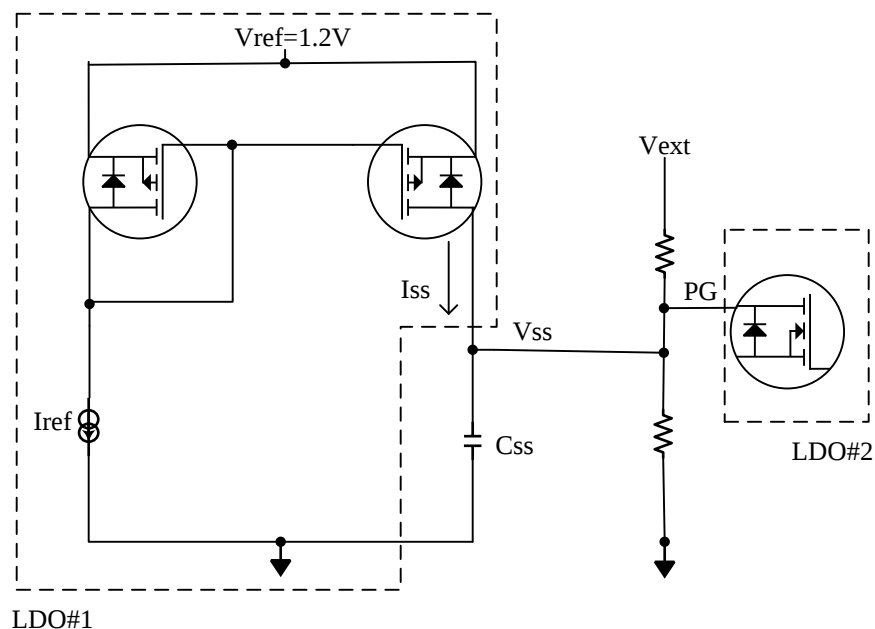

Figure 9. Sequencing LDO#1 by Power Good Signal of LDO#2
8.3.2 Power Good (PG)
Power Good terminal (9) is an open-drain connection and can be used to sequence multiple LDOs. Figure 9 shows typical connection. As shown, maximum voltage at PG terminal must be limited to <1.2 V in order not to forward bias the internal MOSFET diode of PMOS current mirror circuitry.